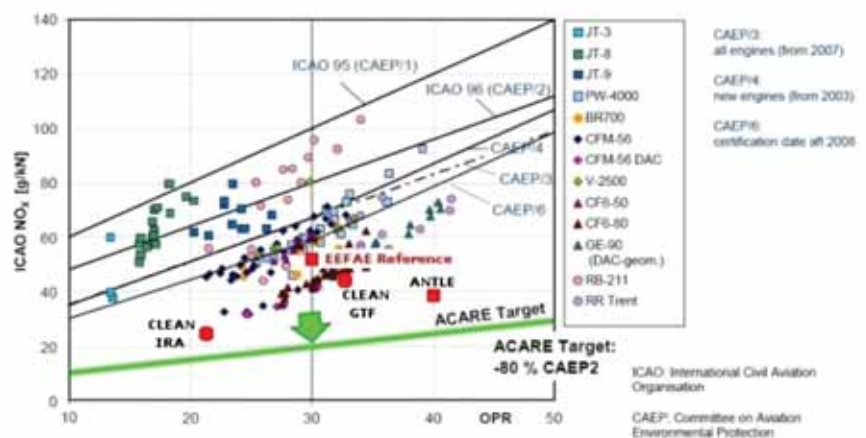

Figure 2: NO_x reduction for different core concepts: NEWAC vs. state of the art
- significant reduction of NO_x emissions during the landing and take-off cycle (-80%) and in cruise (-60%) respect to CAEP/2 limit (see Figure 2).